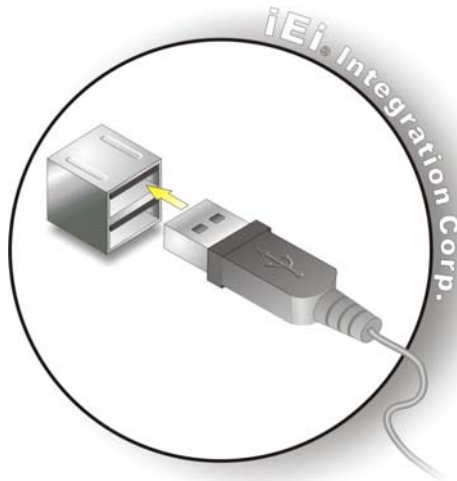

Figure 3-8: USB Device Connection
Step 2: **Align the connectors.** Align the USB device connector with one of the connectors on the AFL3-W07A-BT-N1. See **Figure 3-8**.